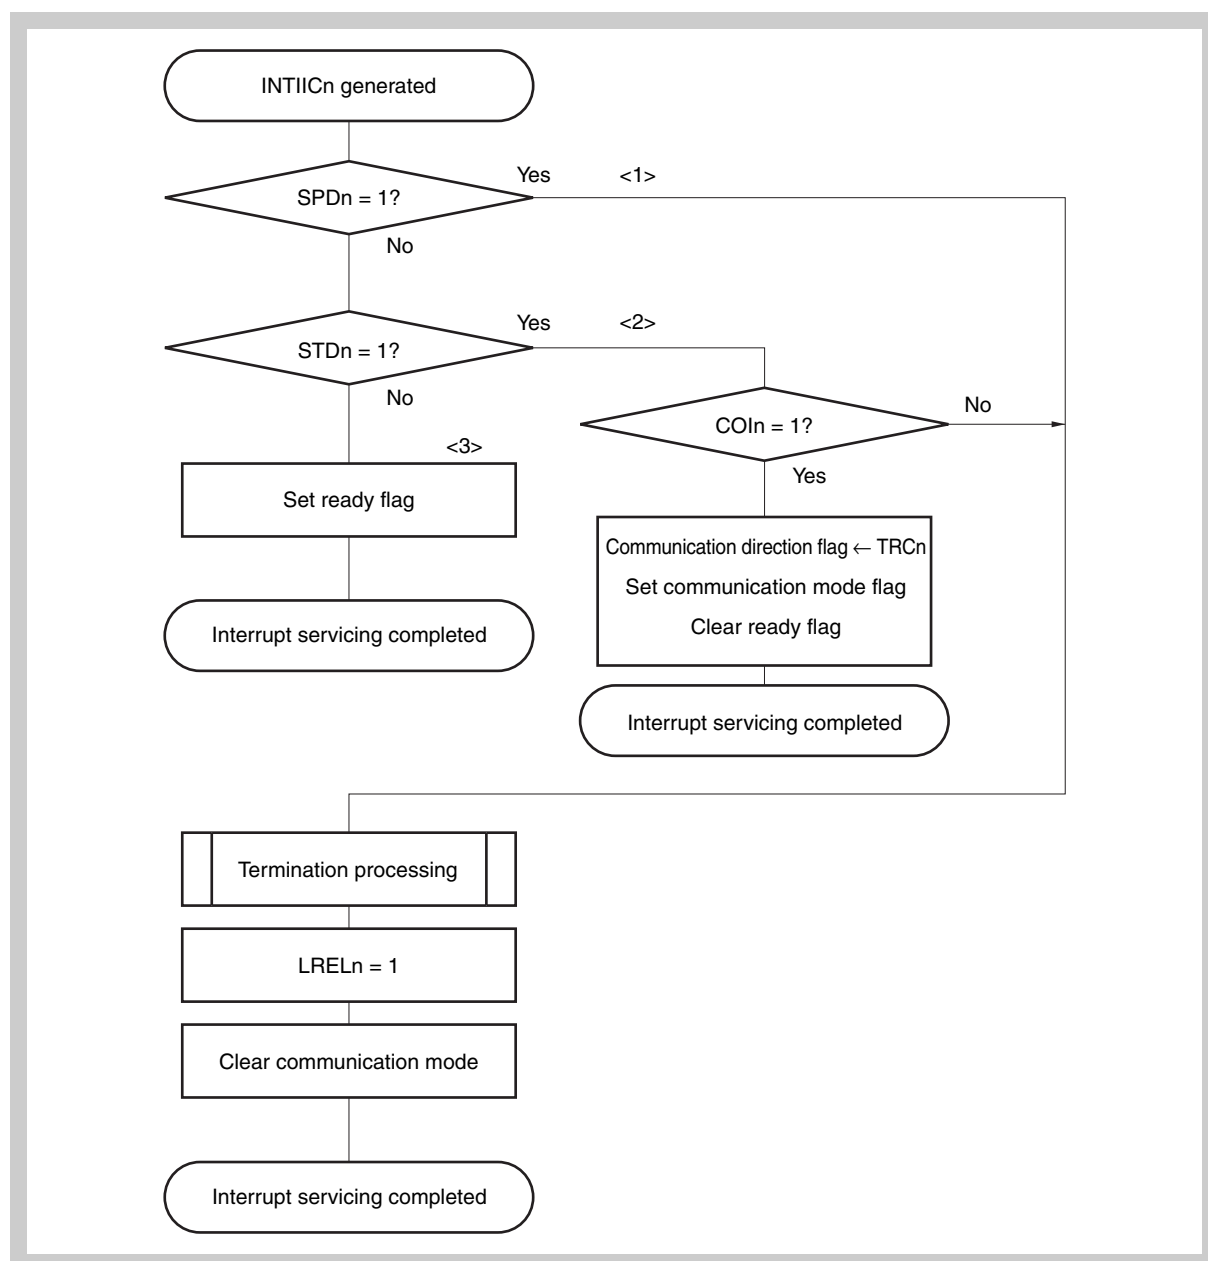

Figure 19-18 Slave operation flowchart (2)
**Note** <1> to <3> in the above correspond to <1> to <3> in *Figure 19-18*.